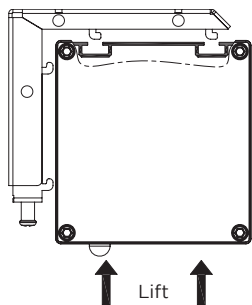
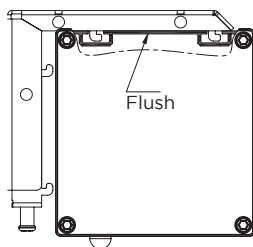
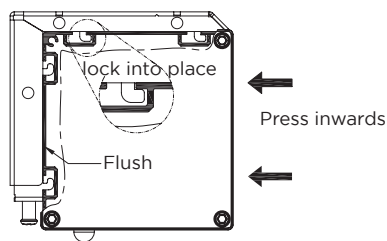

Fig. 8
Fig. 9
Fig. 10
4. Carefully lift the screen and align it with the horizontal locking grooves on the brackets (Fig. 8). Insert the top of both brackets into the recesses on the screen housing until the brackets are flush with the top (see Fig. 9). Then carefully press the screen towards the wall so that the locking hook engages in the rear groove on the housing. Make sure that the screen is fully seated and flush, as shown in Fig. 10.